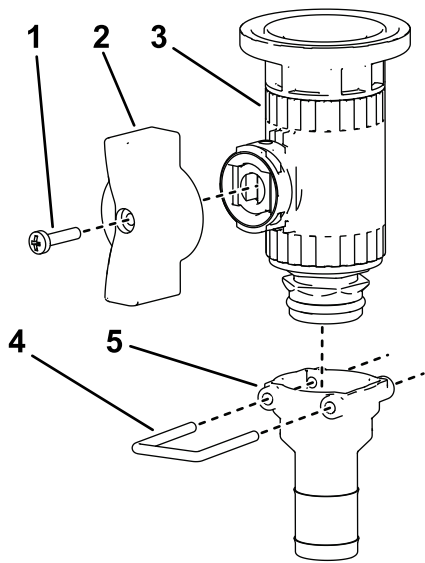

**Figure 21**
6. Secure the control valve assembly to the boom valve with the previously removed O-ring and retainer (Figure 21).
7. Install the cap (1/2 inch), O-rings, fitting, and hose assembly onto the control valve using the retainers previously removed as shown in Figure 21.